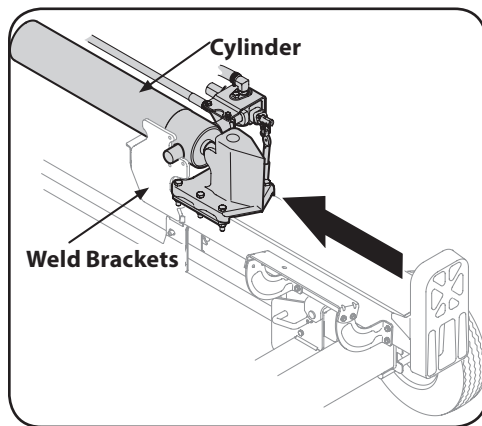

Figure 2-6
16. Lift and slide the cylinder up to the top of beam and into the weld brackets. See Figure 2-6.